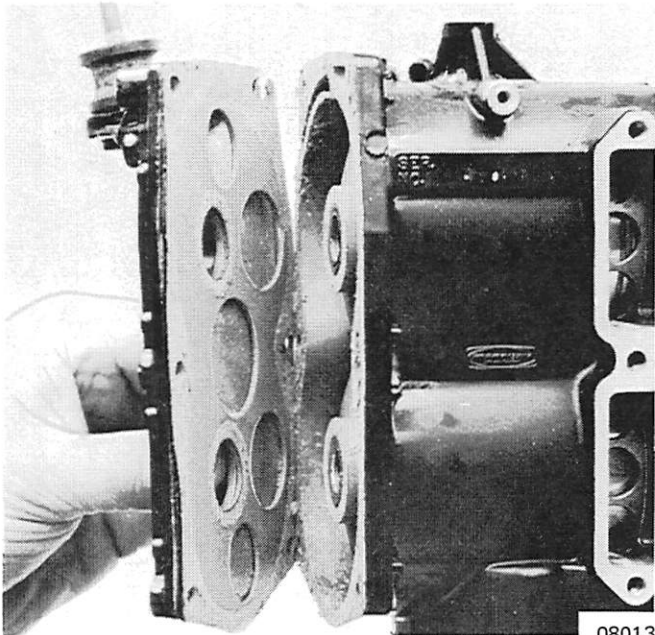

Figure 2. Removing Cylinder Block Cover
2. Remove cylinder block cover screws and cylinder block cover. (Figure 2)